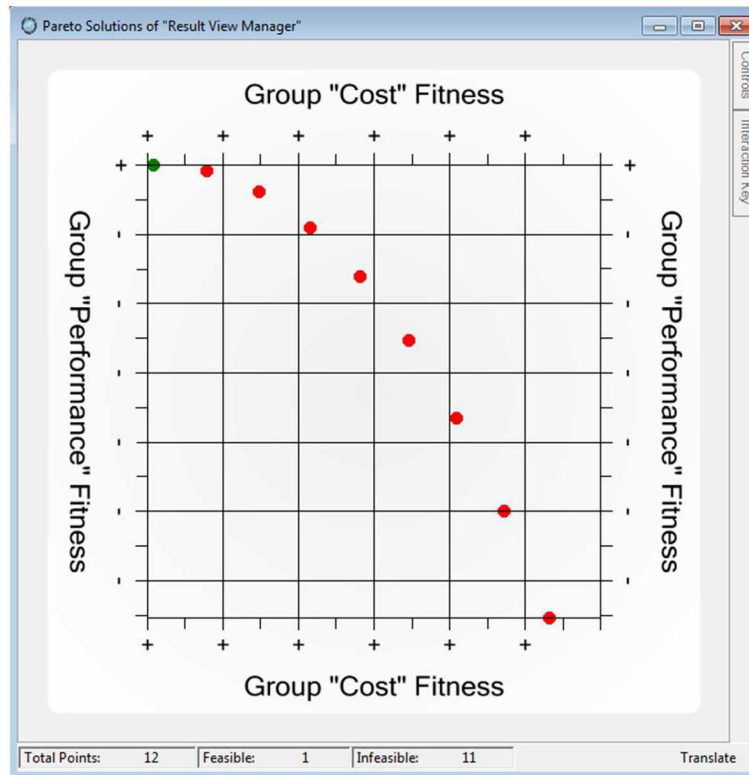

Figure 3. Pareto frontier for use case. The bottom of the plot displays the number of feasible and infeasible solutions (highlighted in green).
3. When the model has finished running, the Results Viewer page will open with the Pareto Frontier (Figure 3).
The Pareto frontier above shows 10 solutions, with one feasible solution (the green dot) and nine infeasible solutions (the red dots). Feasible in this context means that all metric limits have been satisfied. This summary information is displayed at the bottom of the plot (highlighted in green in Figure 3). You may obtain slightly different results when you run the model.